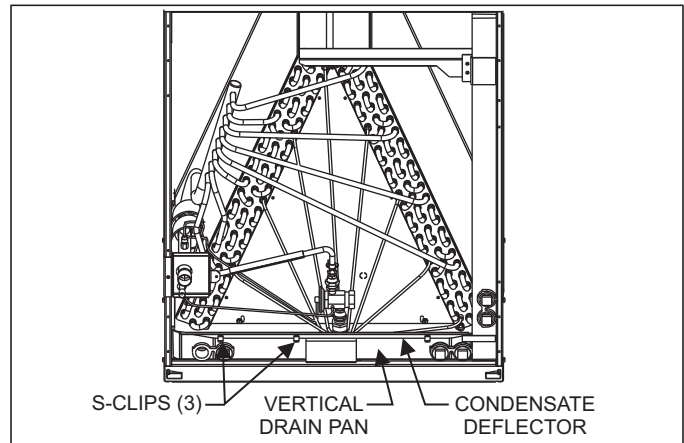

FIGURE 4: Condensate Deflector on Vertical Drain Pan
- Remove and reposition the condensate deflector. See Figures 4 & 5.